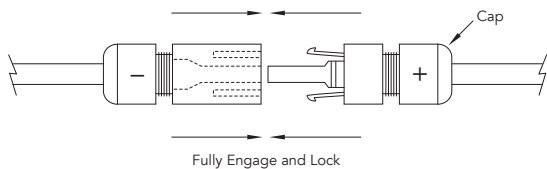

Figure 7: Connector of the plugs
Yingli Solar GG modules are provided with two (2) stranded, sunlight resistant output cables that are terminated with PV connectors ready for most installations. The positive (+) terminal has a female connector while the negative (-) terminal has a male connector. The module wiring is intended for series connections [i.e. female (+) to male (-) interconnections, see Figure 7], but can also be used to connect suitable third-party electrical devices that may have alternative wiring configurations so long as the manufacturer’s instructions are followed.